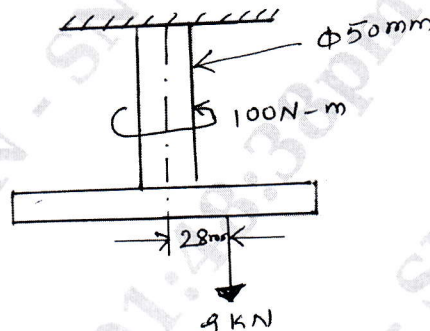

Fig.Q1(c)
- c. A 50 mm steel rod supports a 9 kN load and in addition to this torsional moment of 100 N-m is applied on it as shown in Fig.Q1(c). Determine the maximum tensile and maximum shear stresses.